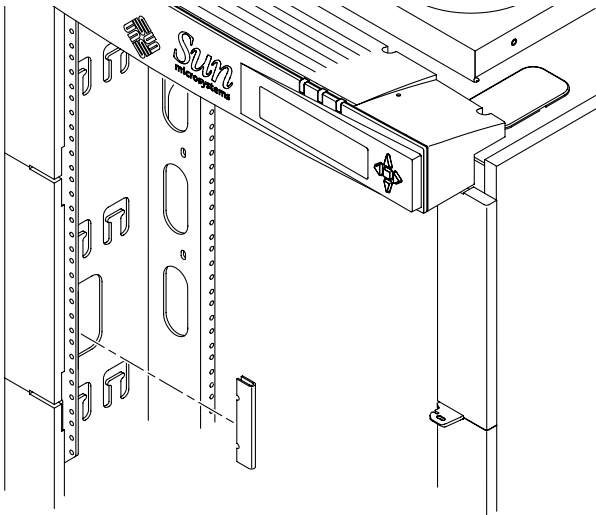

FIGURE 3-5 Cabinet Guard Installation
- 2. **Align the upper “v” notch on the cabinet guard with the appropriate numbered hole, and press firmly in the middle of the guard until it stops against the edge of the cabinet (FIGURE 3-5).**